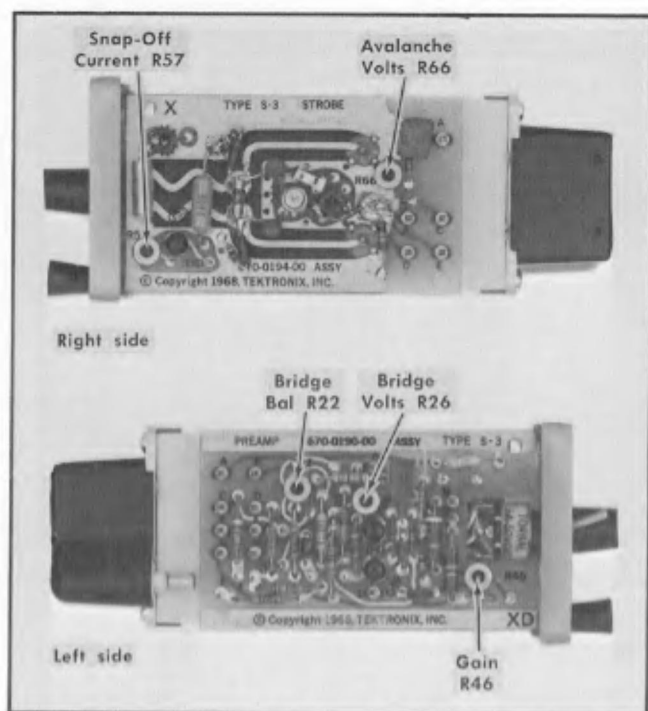

Fig. 5-8. Sampling head internal controls.
b. Remove the sampling head cover. The head must be on an extender cable for access to all controls. Make the connections shown in Fig. 5-5A. Set the controls as in Step 4. Preset the sampling head internal controls (see Fig. 5-8):